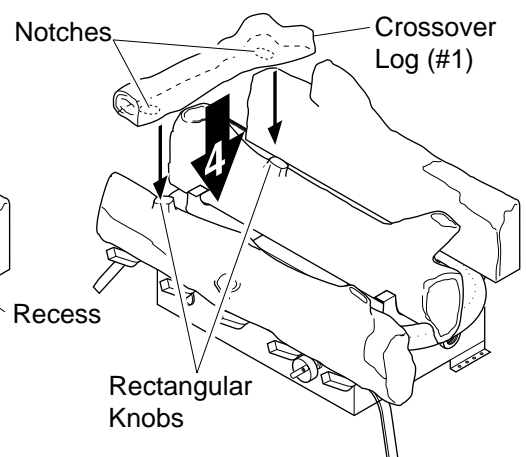

Figure 19 - Installing Crossover Log (#4)
4. Locate the notches in the bottom of the crossover log (#4). Place the crossover log on top of the middle log and front log. Make sure the notches of the crossover log lines up with rectangular knobs on top of the middle and front logs (see Figure 19).